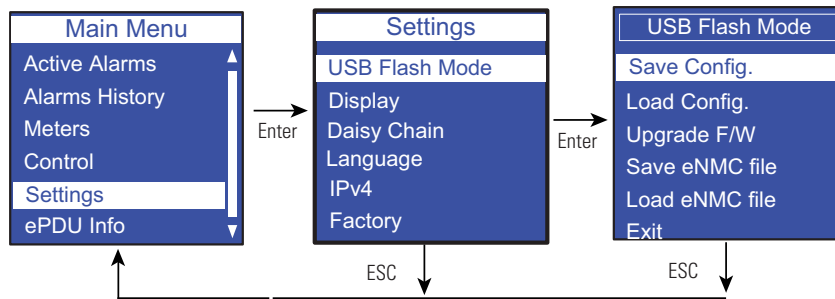

Figure 60. Example Save Config.
6. Select Save Config (see Figure 60).